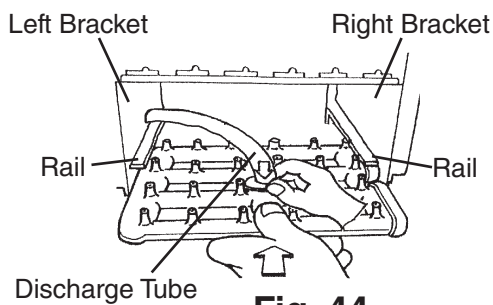

Fig. 44
- 12) Slide in the spray assembly along the rails on the left and right brackets. See Fig. 44. Connect the discharge tube securely to the spray assembly; a loose fitting may cause a water leak.